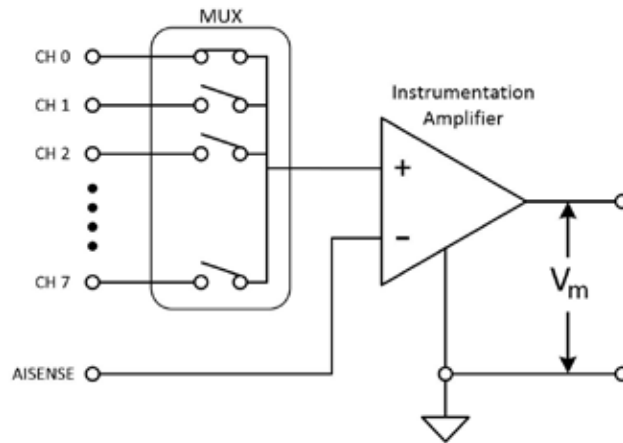

Figure 5. An NRSE instrument's common point is the voltage provided at the negative terminal of the instrumentation amplifier.
- **NRSE** instruments reference a common point; however, the common point is the voltage provided at the negative terminal of the instrumentation amplifier. In the NRSE example shown in Figure 5, the common reference is the AI SENSE line; therefore, the measured voltage is the potential difference between CH X and the voltage at the AI SENSE channel.